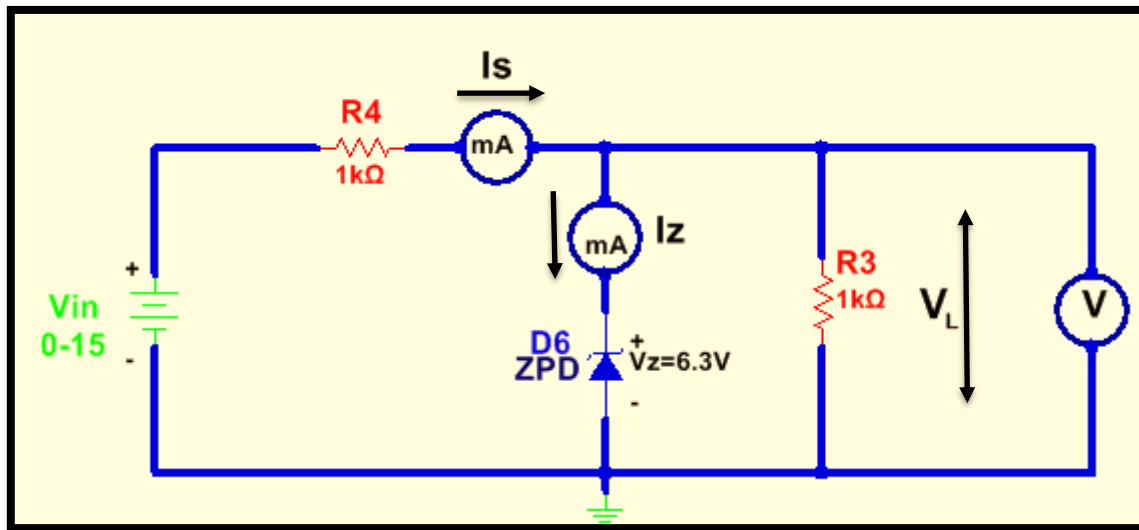

Figure 9: Practical Circuit for Zener Diode Voltage Regulator with Variable Input Voltage
3. Connect the voltage regulator circuit shown in Fig.9, and vary the input voltage in several steps from 0 to 15V as shown in Table 3. Record V_L , I_S , I_Z , and I_L where $I_L = I_S - I_Z$.
Table 3: Recorded Data for the Voltage Regulator Circuit of Figure 9
6. Plot the relation between V_L and V_{in} for the voltage regulator circuit in Fig.9, and comment on the resulting sketch. From this sketch, determine the minimum value of input voltage required to turn-on the zener diode.
7. Calculate the theoretical minimum value of V_{in} required to turn-on the zener diode in the voltage regulator circuit of Fig.9. Determine also the maximum permissible value of V_{in} knowing that the maximum DC power dissipation of the PZD zener diode is 0.5W.